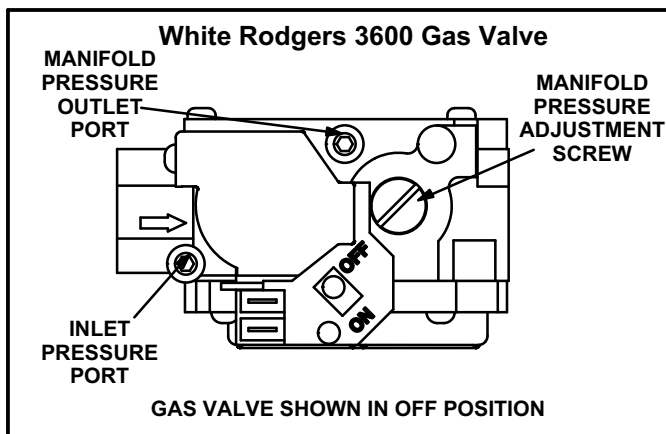

FIGURE 29
- 5 - A 3 mm (1/8") N.P.T. plugged tap or pressure post is located on the gas valve to facilitate test gauge connection. See figure 29.
- 6 - Move lever on gas valve to **OFF**. See figure 29.
- 8 - Move lever on gas valve to **ON**. See figure 29.
- 4 - Move lever on gas valve to **OFF**. See figure 29.
The White Rodgers 36G24 gas valve (figure 29) is equipped with pressure posts for measuring supply and manifold pressures. The posts provide built-in 7.9mm (5/16") hose connections and have an integral 2.4mm (3/32") Allen-head screw. Rotate the screw counterclockwise one full turn to permit pressure measurement. Reseat the screw (rotate one full turn clockwise) after measurements have been taken to prevent gas leakage.
After the line pressure has been checked and adjusted, check the manifold pressure per table 8. See figure 29 for the location of the manifold pressure adjustment screw.